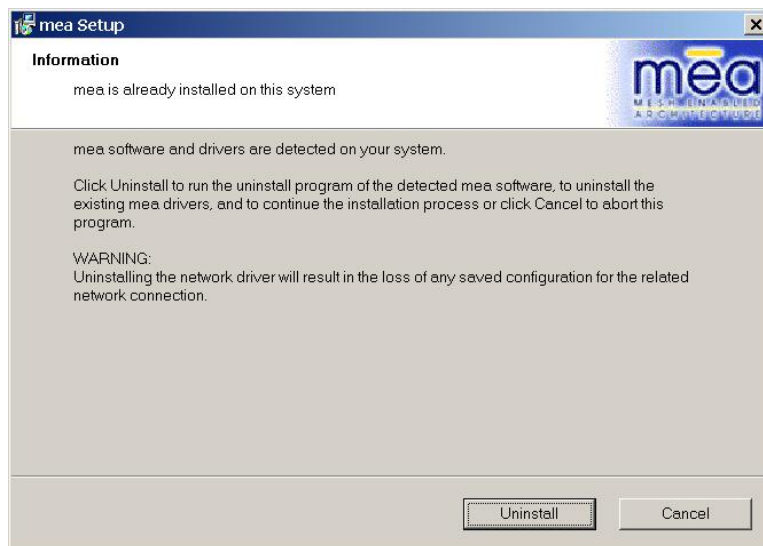

Figure 19 MEA Setup - Drivers Previously Installed Dialog Box
10. If MEA was previously installed on your computer, the *Information* dialog box will be displayed as shown in Figure 19. Click on the **Next** button to uninstall the existing MEA drivers and continue the installation process. If you do not want to continue, press the **Cancel** button.